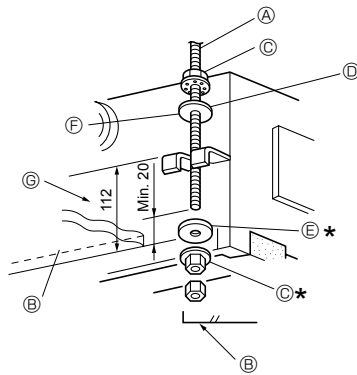
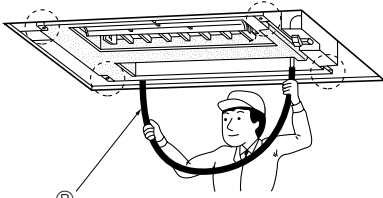

Fig. 2-7
Fig. 2-8
- Thread washers ① ② (supplied) and their nuts (procured locally) onto the suspension bolt in advance. (Fig. 2-7)
- * Do this in the following order (from the top): nut, insulated washer ②, washer without insulation ①, 2 nuts.
- * Position insulated washer ② with the insulated surface pointing down, as in the figure.
- Lift the unit into place, aligned properly with the suspension bolt. Pass the bracket between washers ① and ②, which are already in place, and secure it. Do the same in all four places.
- Ⓓ Washer ② (with insulation)
- Ⓔ Washer ①
- Check that the four corners are all level, using a spirit level or clear plastic tubing with water in it. (Fig. 2-8)